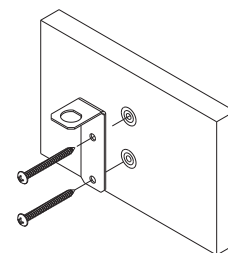

Fig. 6
- 9 Secure antenna extension bracket (A) using two (2) wood screws (B) (Fig 6).